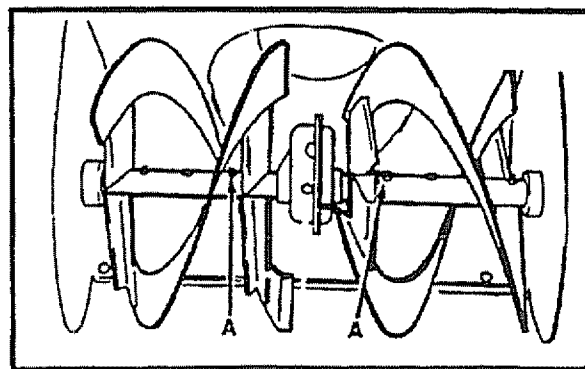

FIG. 16
- Weight Transfer System - Coat weight transfer side plates with clinging type grease, such as Lubriplate, every ten (10) hours and before storage. See Lubrication Chart on page 26.
- Auger Shaft - Using a hand grease gun, lubricate the auger shaft zerk fittings (See A, Fig. 16) every ten (10) operating hours. Each time a shear bolt is replaced (see To Replace Auger Shear Bolt paragraph on page 23), the auger shaft MUST be greased.